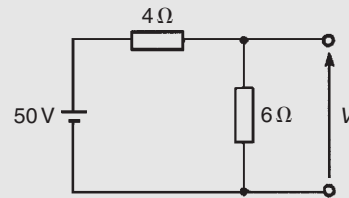
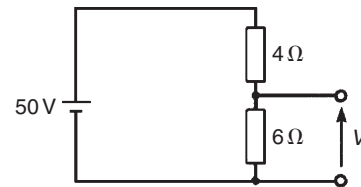

Figure 5.6
Figure 5.7
**Problem 4.** Determine the value of voltage  $V$  shown in Fig. 5.6
Fig. 5.6 may be redrawn as shown in Fig. 5.7, and